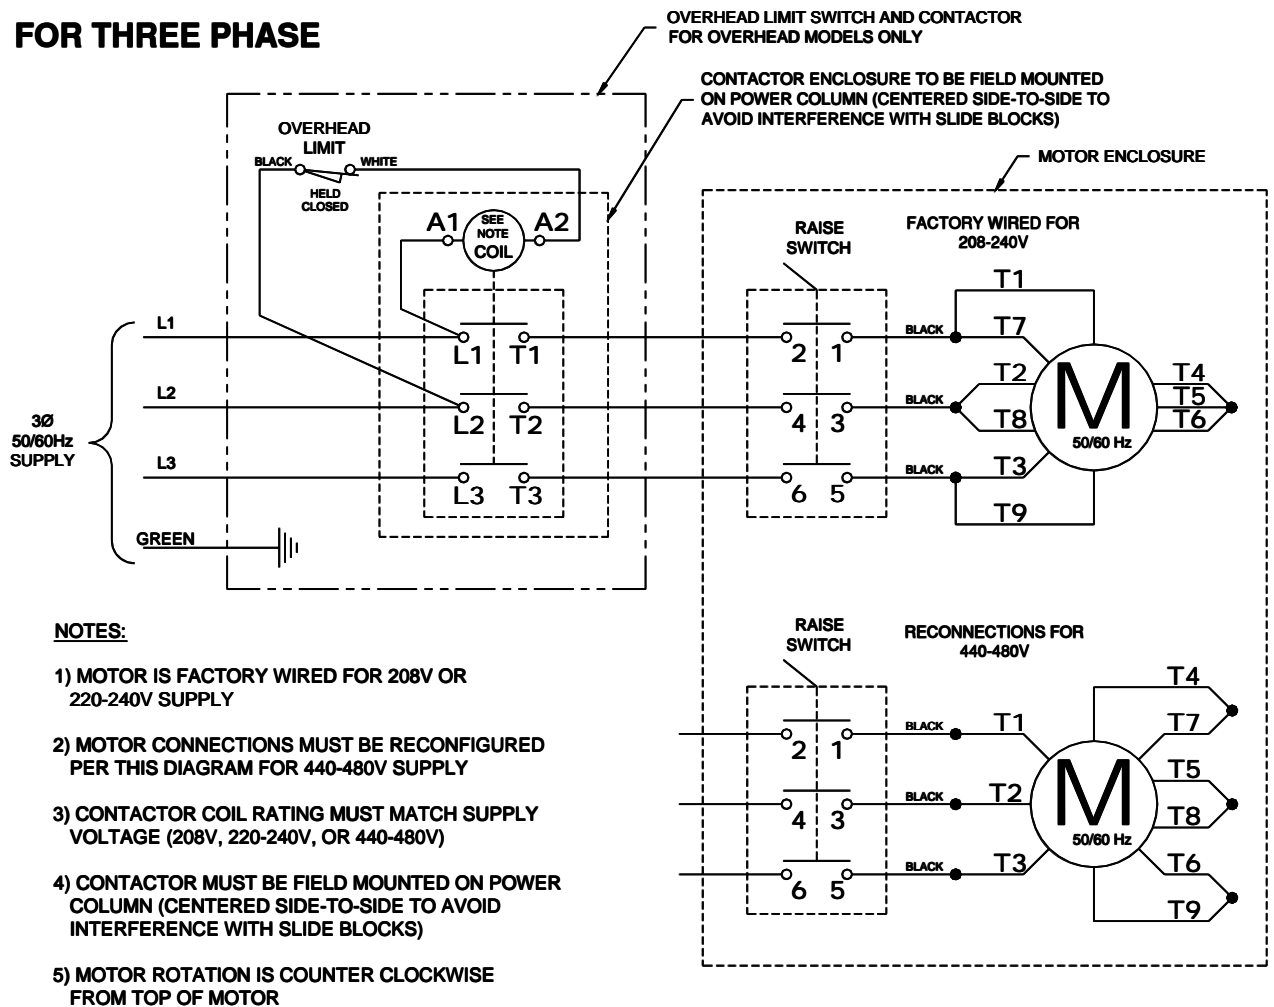

Fig. 2 Wiring Diagram
5. Connect the Overhead Limit Switch Cord to Power Unit as shown in **Fig 2.**
6. Connect Power Unit to suitable electrical source as shown in **Fig 2.**